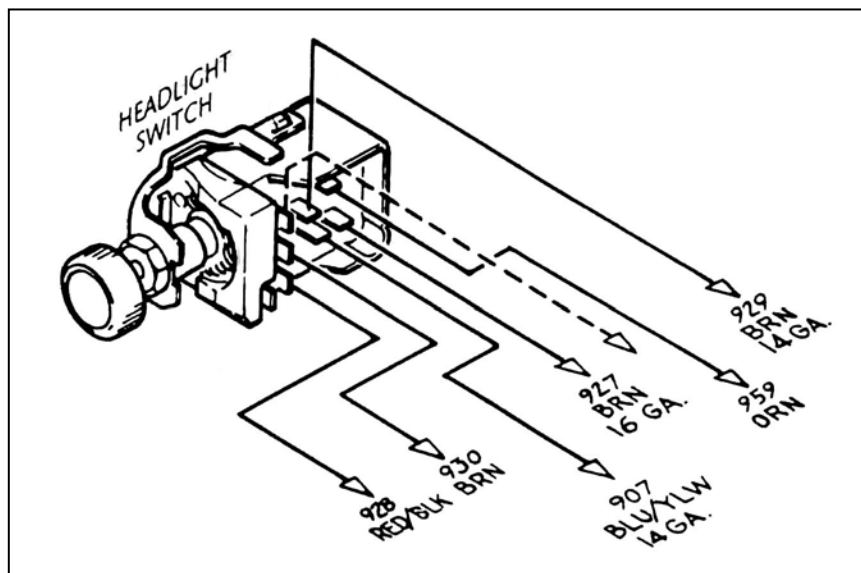
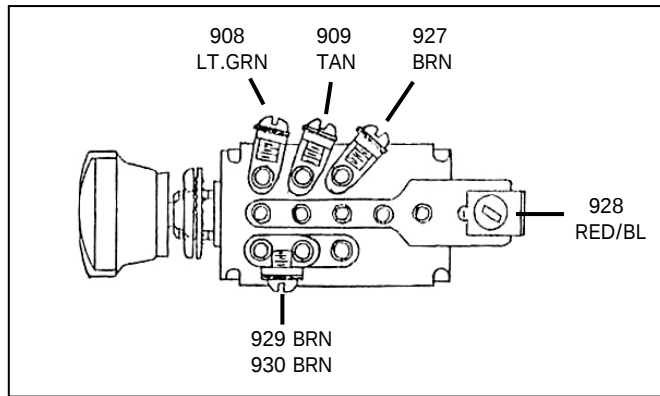

Figure 10-6A GM Style Headlight Switch (Painless Part #80152)
Figure 10-6B Headlight Switch with High/Low Control (Painless Part #80154)
10.5 HEADLIGHT SECTION B Wiring. See Figures 10-6A & 10-6B.
10.5.1 Connect the 6 wires of HEADLIGHT SECTION B as shown in the following figures. If you do not have a GM style headlight switch (**Figure 10-6A**) or the headlight switch with high/low control (**Figure 10-6B**), you should trace out the wires of your existing harness and connect the new harness according to **Table 11-2**.
Note: On late-style GM headlight switches, the park lights terminal to which wire #927 (brn) is connected (shown in **Figure 10-6A**) has been omitted. In this case, wire #927 must be connected as indicated by the dashed line in **Figure 10-6A**.